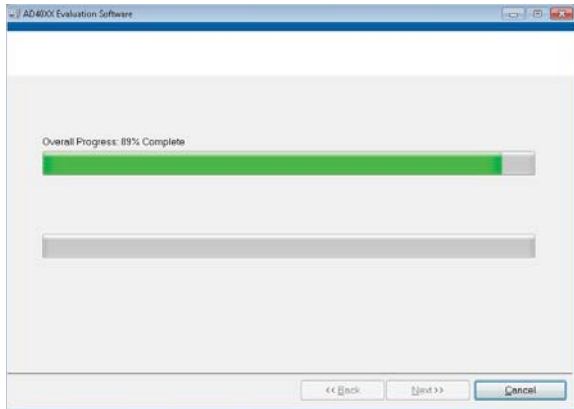

Figure 7. Overall Progress
7. A pop-up window opens and displays a bar showing the installation progress, as shown in Figure 7.